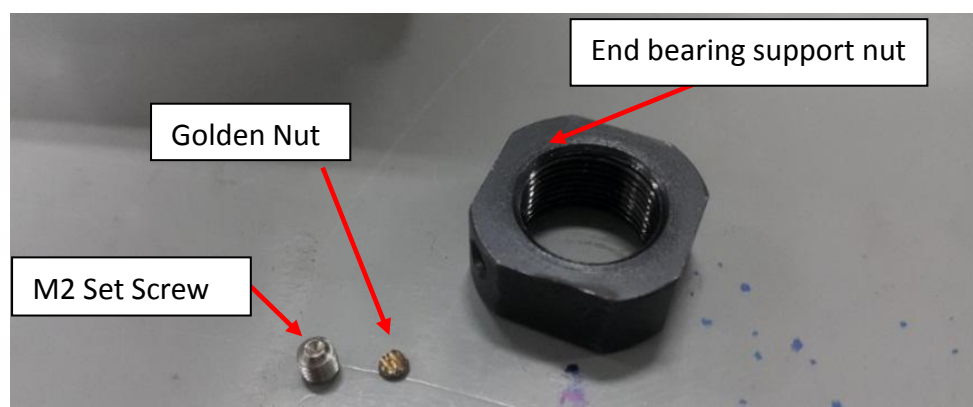
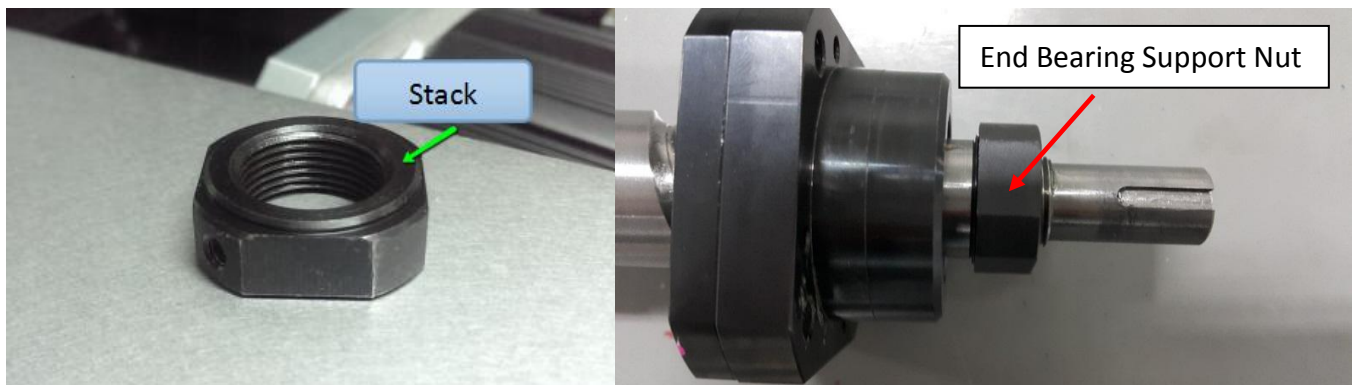

Figure 40 End Bearing Support Nut, Golden Nut, M2 Set Screw
Figure 41 End Bearing Support Nut
32. Prepare End Bearing Support Nut, Golden Nut, and M2 Set Screw which previously dismantled. May refer to below Figure 40.
33. Insert the End Bearing Support Nut (refer Figure 40) to the ball screw end as shown the Figure 41.